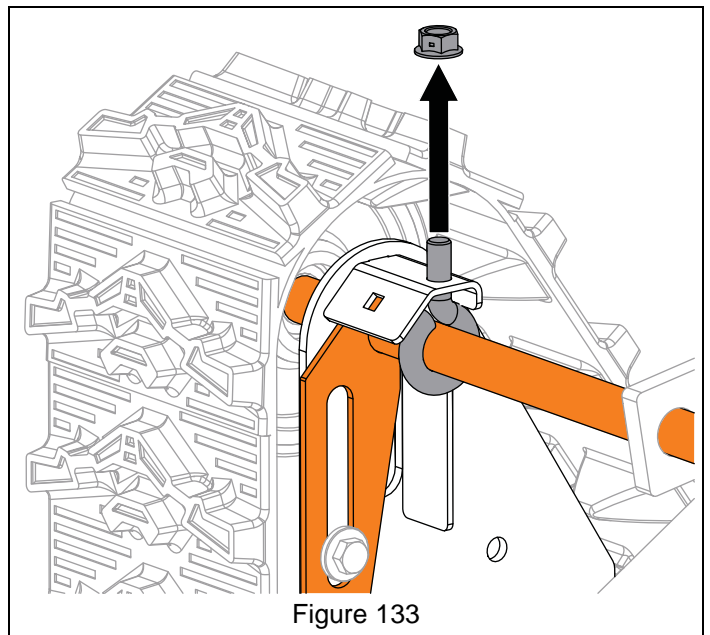

Figure 133
4. Remove flange nuts from eye bolts around rear track axle to release track tension. See Figure 133.